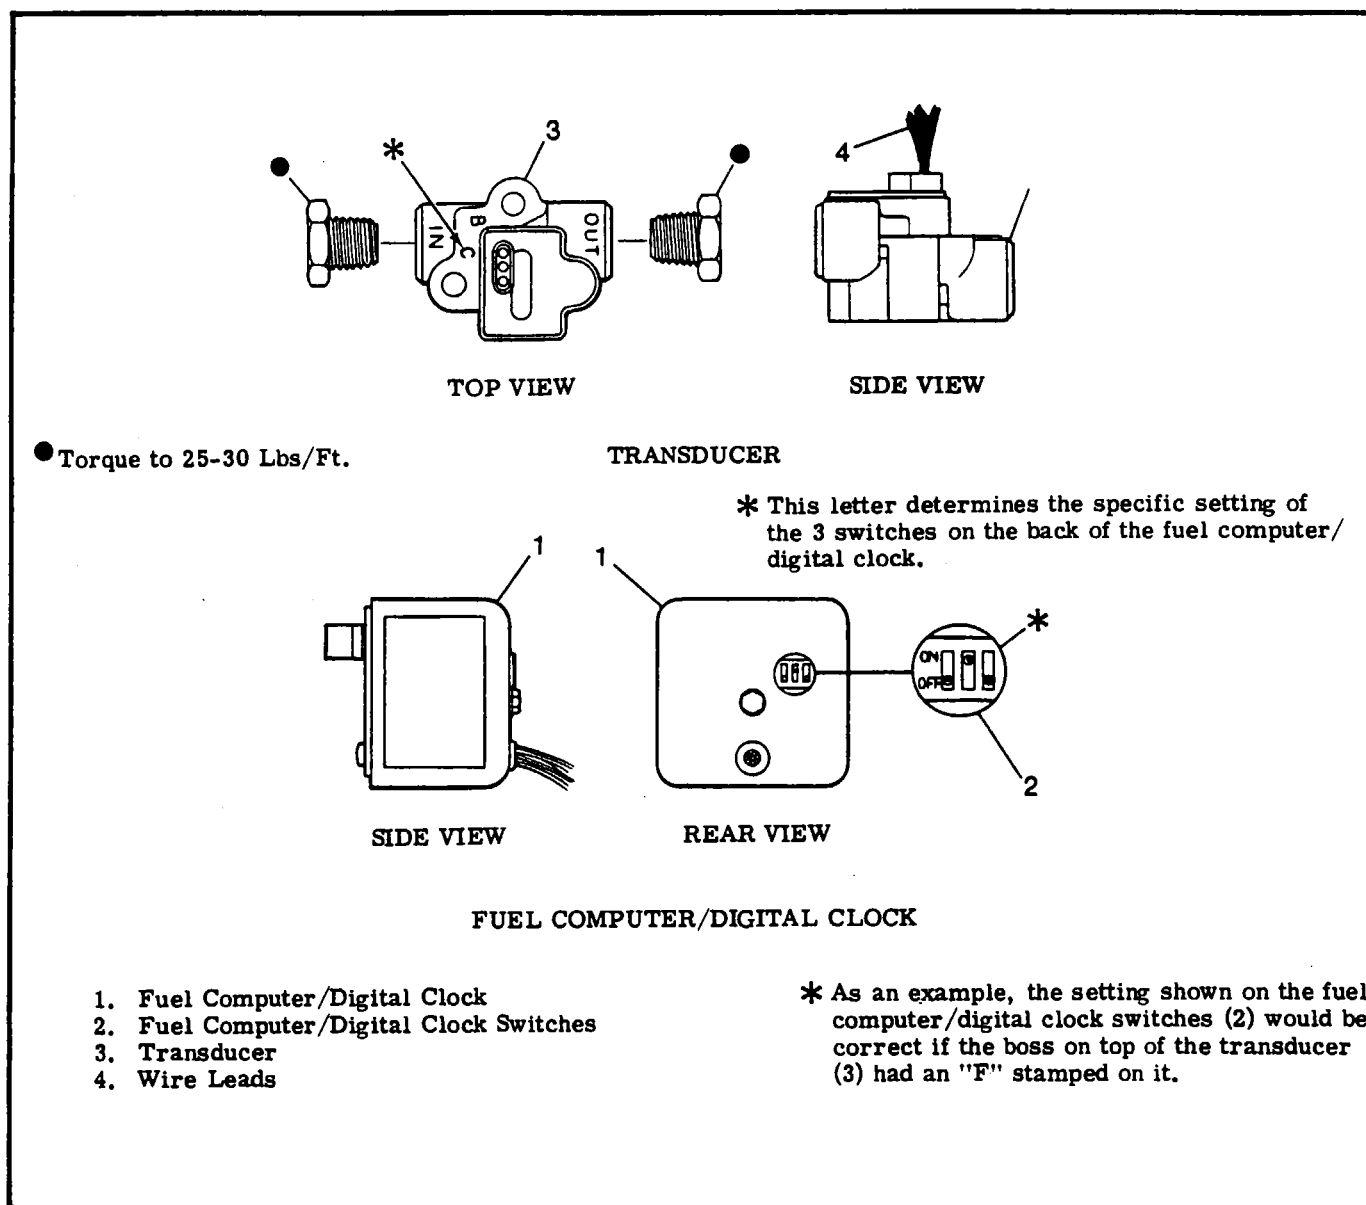

Figure 16-10. Transducer Markings and Fuel Computer/Digital Clock Switches
16.87. **FUEL TRANSDUCER CALIBRATION.** (See figures 16-10 and 16-11.) The fuel computer/digital clock (1) has a 3-section switch (2) located on the back of the unit under a tape cover. Remove the cover and set the switches as shown on the fuel transducer table, figure 16-11. The fuel transducer (3) may have one or two letters (stamped or raised), located on the boss adjacent to the inlet